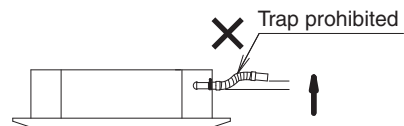

Fig. 3-94
- Do not make a trap in the middle of the supplied drain hose. Doing so will cause abnormal sound. (Fig. 3-94)